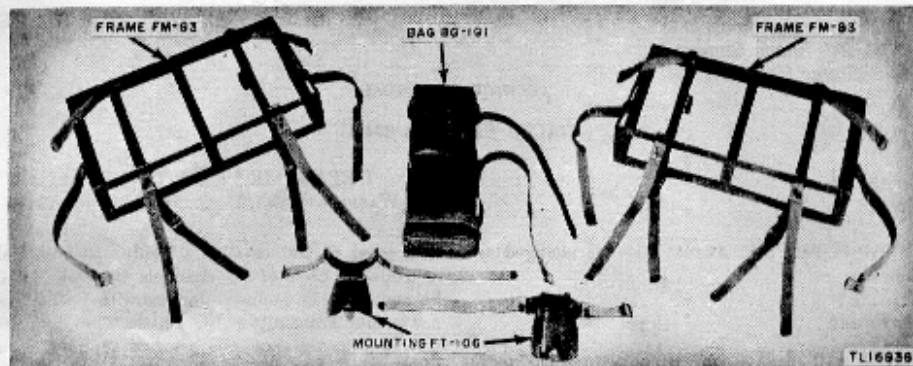

Figure 8.1 Pack Equipment CR-13.
b. LIST OF COMPONENTS. Pack Equipment CE-13 (fig. 8.1) consists of the following components: